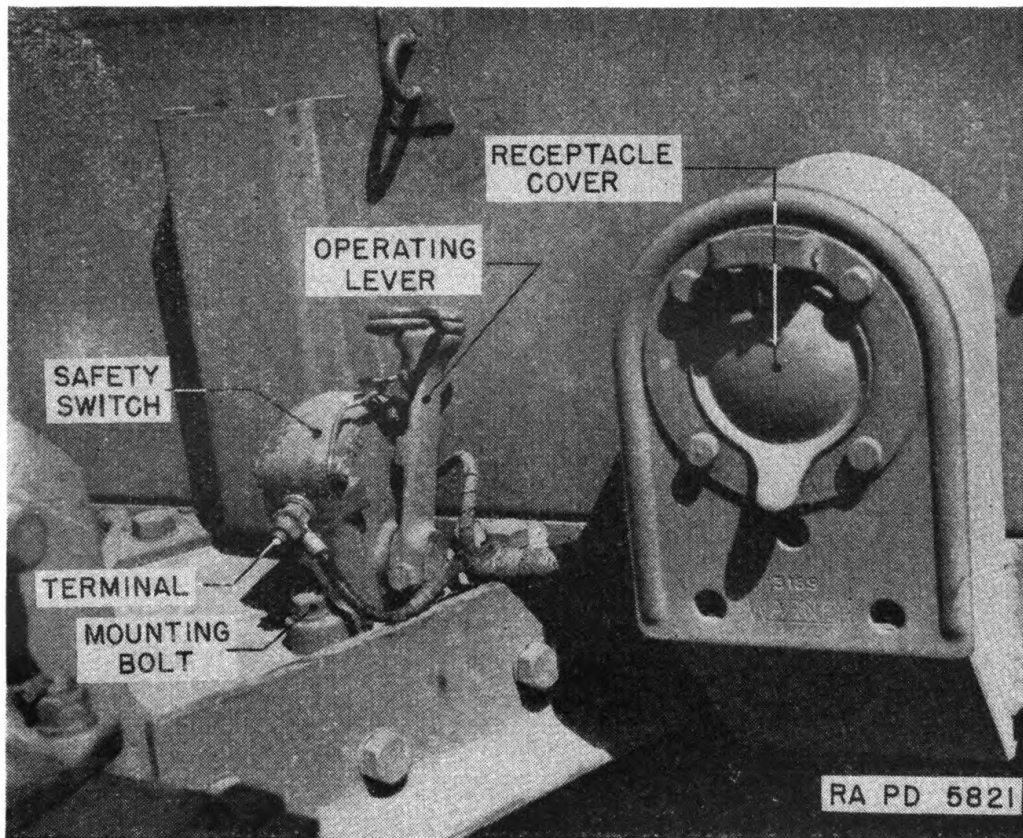
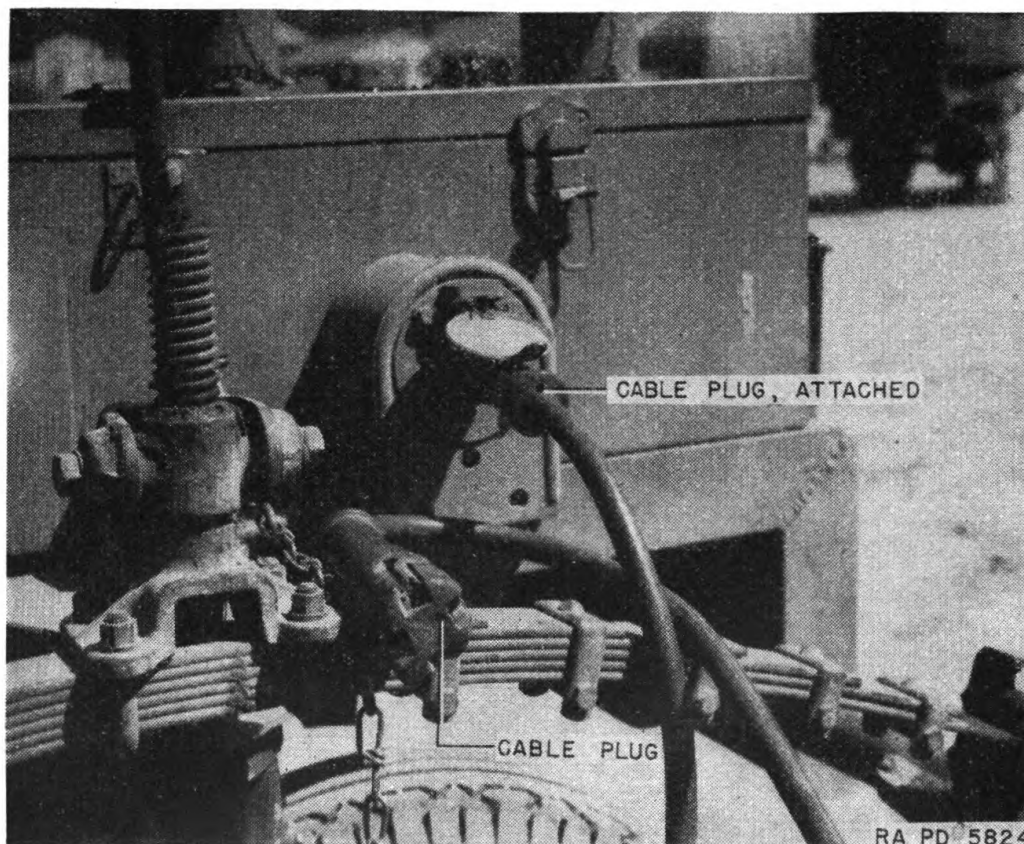

FIGURE 5.—Connector cable receptacle and safety switch.
FIGURE 8.—Connector cable.
**7. Connecting cables.**—The electric brake system and the lighting system of the trailer are connected to the prime mover or the trailer ahead (when operating in trains) by an electric connecting cable. To connect this cable lift up the spring cover (fig. 5) on the receptacle and push the plug into the receptacle as far as it will go (fig. 8). The plug and receptacle are so designed that they can be connected only in the proper position. The plug has four contacts, two for the lighting system, one for the brake system, and one for the ground connection for both systems. The connecting cable is